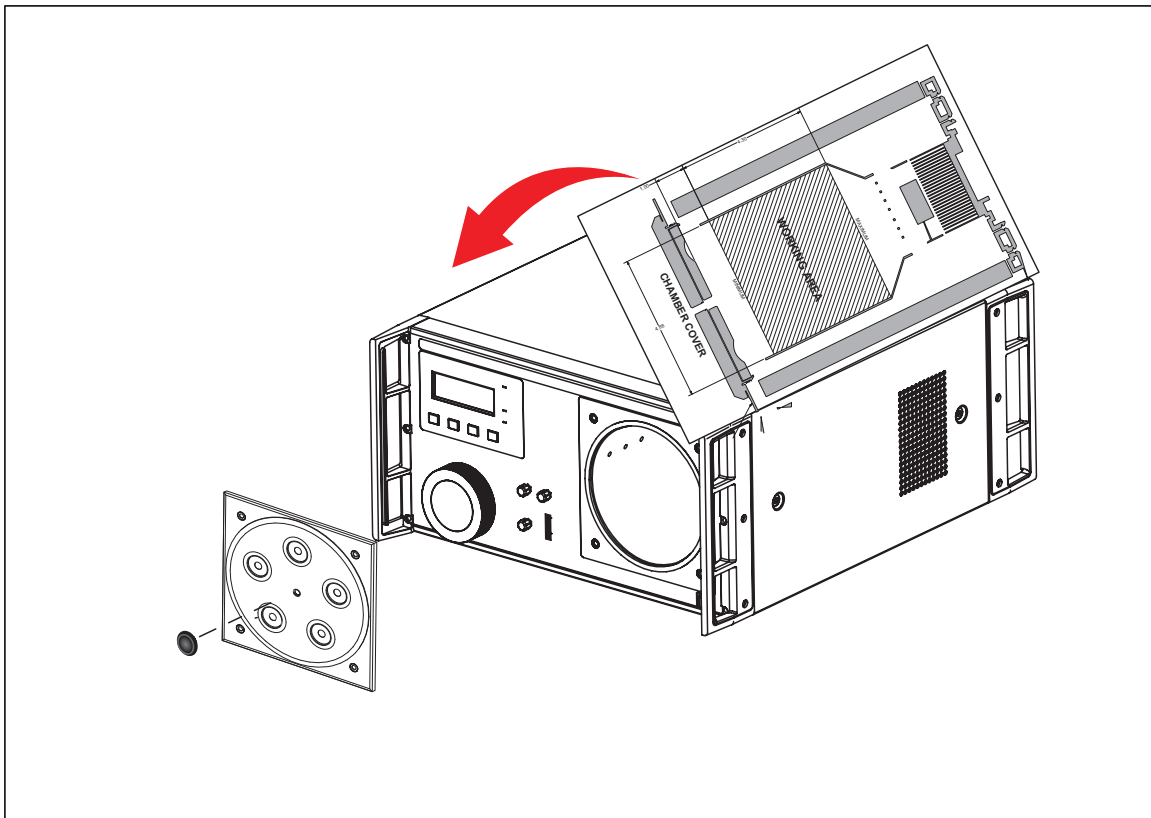

Figure 3. Use the Working Volume Template
1. Make a copy of this figure and physically place it on top of the Product over the chamber. Use the template to know how far to insert the UUT. See Figure 3.